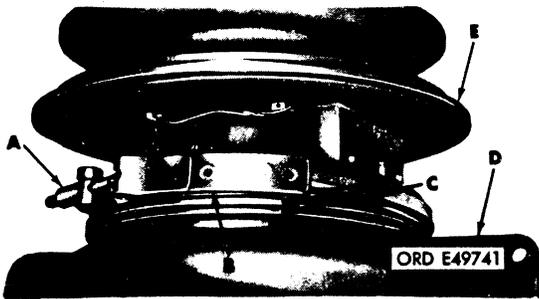

FIGURE 21. REMOVING BEARING HOUSING ASSEMBLY AND RELATED PARTS - TURBOCHARGERS 10912638 AND 53591-C-139552.
**b. Turbochargers 10912638 and 53591-C-139552.** Refer to figure 21.
- (1) Remove compressor wheel lock nut as instructed in paragraph 22a(1).
- (2) Remove clamp nut (A) and position clamp (B) to center of bearing housing being careful not to move bearing housing assembly.
- (3) Scribe alinement marks (C) on turbine housing (D) and bearing housing (E) to ensure correct positioning during assembly.
- (4) Lift bearing housing (E) and related parts from turbine housing (D).